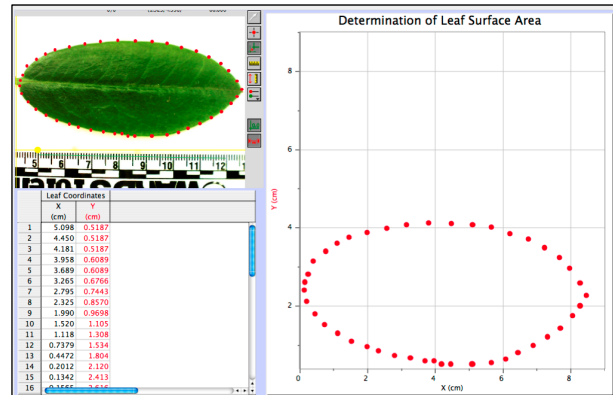

Figure 5
- g. Click Add Point, . Move your cursor to the edge of the leaf and click to add a point. Circumscribing the leaf with points in a sequential clockwise manner as shown in Figure 5. Points need to be close enough to register all directional changes along the leaf edge. Place the final point directly on top of the starting point.